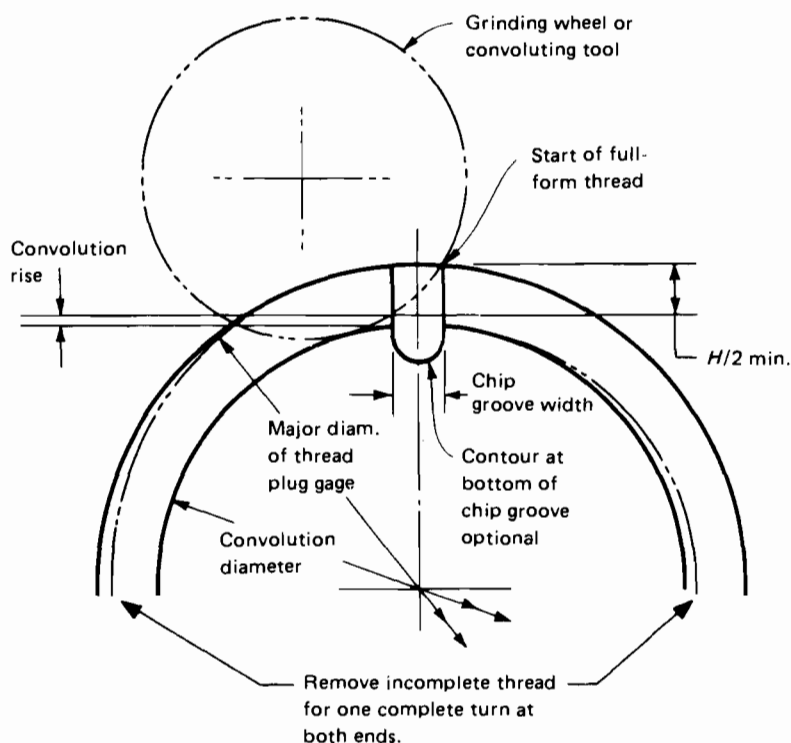

FIG. 2 PARTIAL END THREADS AND CHIP GROOVES
4.1.10 Incomplete Thread. The feather edge at both ends of the threaded section of the gaging member shall be removed. On pitches coarser than 0.8 mm, not more than one complete turn of the end threads shall be removed to obtain a full-thread form blunt start. See Fig. 2. On pitches 0.8 mm and finer, a 60 deg. chamfer from the axis of the gage is acceptable in lieu of the blunt start.
commercial practice are acceptable, such as a groove cut at an angle with the axis or a longitudinal groove cut parallel with the axis and extending the complete length of the gaging member. The groove shall be located circumferentially at the start of the full thread, and in all cases the depth shall extend below the root of the first full thread. The distance from the major diameter of the thread plug to the crest of the convolution rise in front of the chip groove, due to the radius of the convoluting tool, shall be a minimum of $H/2$ as shown in Fig. 2. The beginning of the first thread shall be full form. The recommended widths for chip grooves are as shown in Table 3.
4.2.10 Incomplete Thread. The feather edge at both ends of the threaded section of the gaging member shall be removed. On pitches coarser than 0.8 mm, not more than one complete turn of the end threads shall be removed to obtain a full-thread blunt start. See Fig. 2. On pitches 0.8 mm and finer, a 60 deg. chamfer from the axis of the gage is acceptable in lieu of the blunt start.